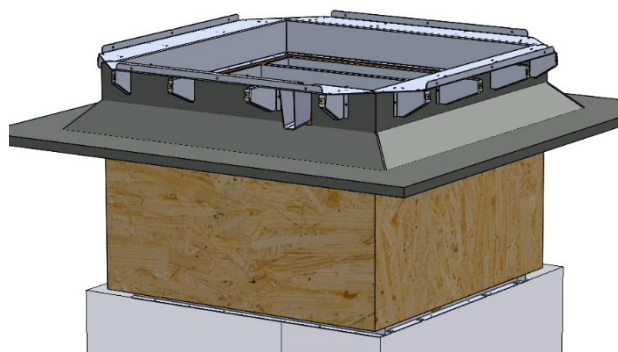

Figure 12 – Exchanger housing drain location assembly.
4. Drain feature in exchanger housing assembly locates into cut out made – *see figure 12*.